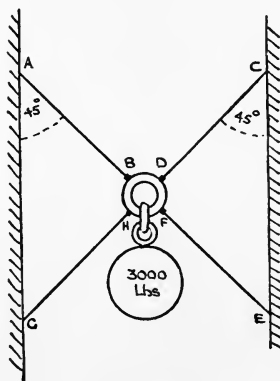

Fig. 4.
6. A ring is supported by 4 wires AB , CD , EF , GH (see Fig. 4). Each wire is 40 inches long, 0.1 square inch in section and is initially stretched to a tension of 1 ton. A load of 3000 lbs. is then hung from the ring, find the tension produced in each wire and the vertical deflection of the load.